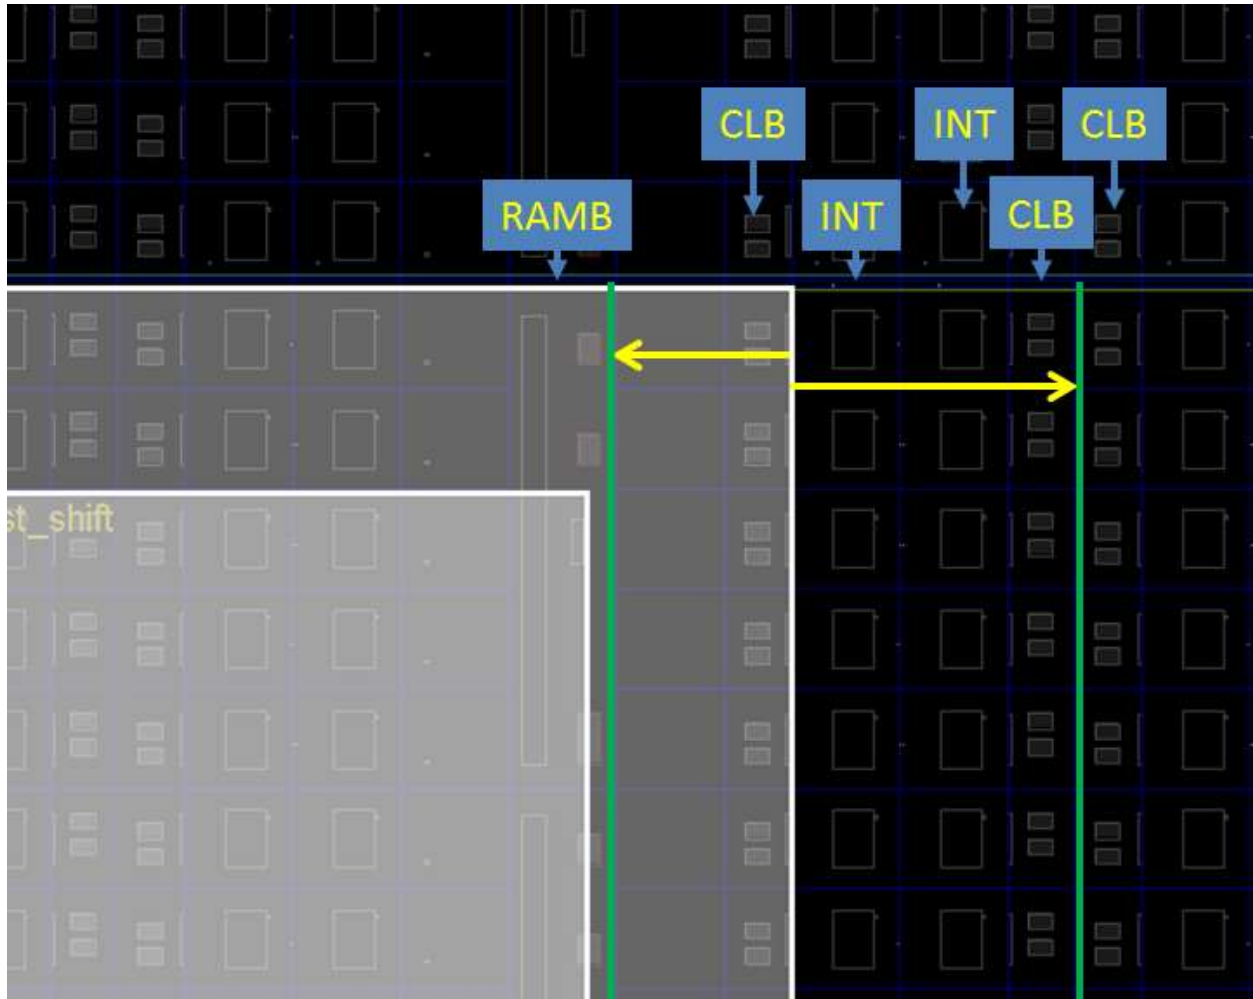

Figure 5: Adjusting the Edges of a Reconfigurable Pblock
6. To manually avoid this DRC warning, zoom into the upper or lower corner on the reported edge of `inst_shift` (or `inst_count`, if `inst_shift` did not report an issue) to see where the violation occurred. Move this edge left or right one column, as shown by the yellow arrows in Figure 5, so it lands between two resource types (CLB-CLB or CLB-RAMB, for example) instead landing between CLB-INT or BRAM-INT.